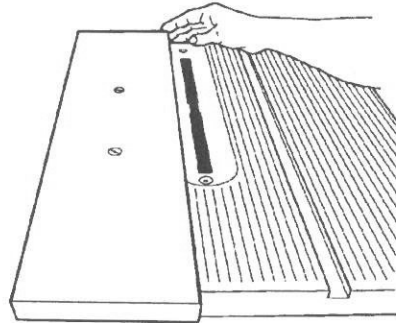

Fig. 4
4. Place the Auxiliary Table in the miter gauge slot to the left of the saw blade, as seen in Fig. 4.